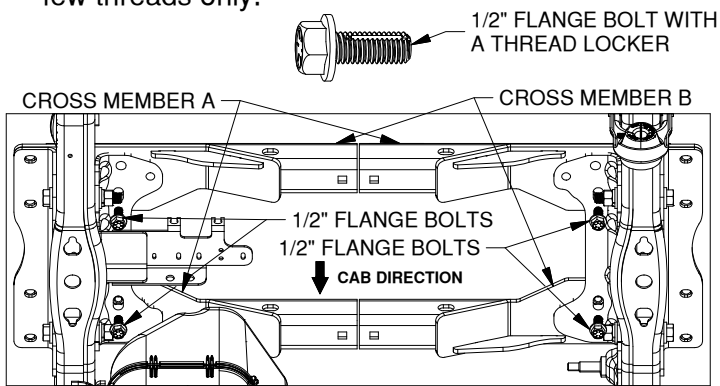

Figure C2: View looking up under the bed.
- Place cross members.** Locate the two A and B cross members and the four 1/2" flange bolts with a thread locker. Pass each of the cross members up and over the inside side plates, as shown in Figure C2. Attach each cross member to the inner side plate with the 1/2" flange bolts. Loosely attach the flange bolts by a few threads only.